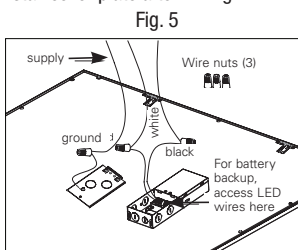

Fig. 5
7. Using the open knockout bring in supply line. Use included wire nuts (B) to attach the ground wire to the ground supply wire, the black (line) wire to the black supply wire, and the white (neutral) wire to the white supply wire (Fig. 5).
NOTE: Fixture is compatible with battery backup system including Suralites EBPLED7W and EBPLED14W. If using a battery backup system remove cover plate to access LED load wires and follow battery backup wiring instructions (Fig. 5). Reinstall cover plate after wiring.